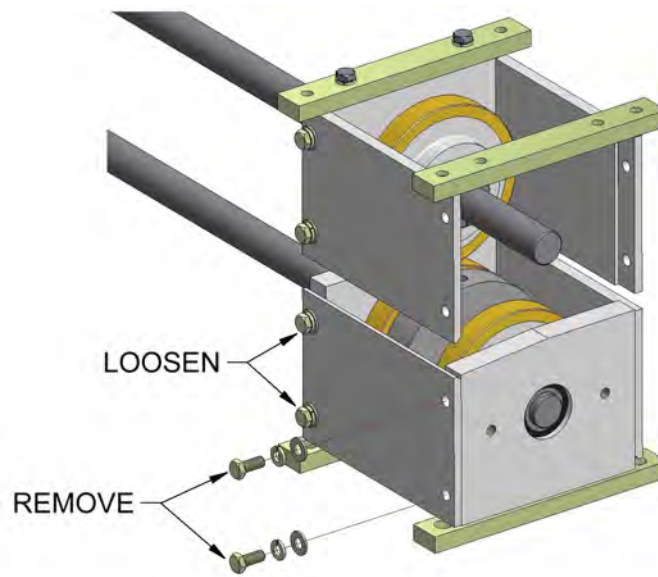

Fig. 8-7. Slitter Knife Removal Step 6
6. Remove the two bolts shown in **Fig. 8-7**, and loosen the two bolts shown in **Fig. 8-7**.